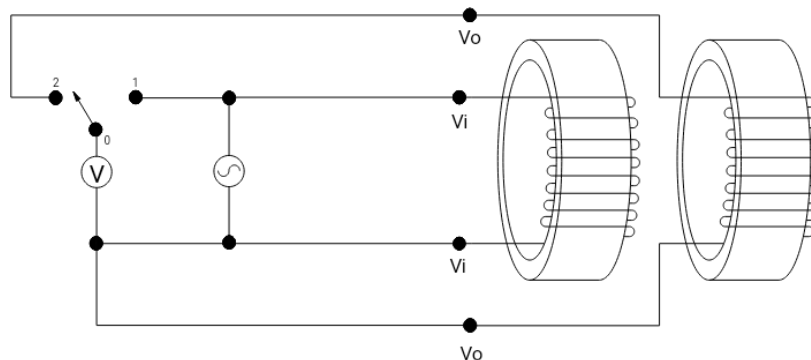

Fig. 3 Experiment wiring diagram for liquid conductivity measurement
- 1) Figure 3 is the experiment wiring schematic for liquid conductivity measurement using LEEI-15 apparatus. In order to ensure the accuracy of the measurement, the apparatus uses a selection switch to rapidly switch voltage measurements between the input voltage (V_{in}) and output voltage (V_{out}) and displays on the same digital voltmeter.